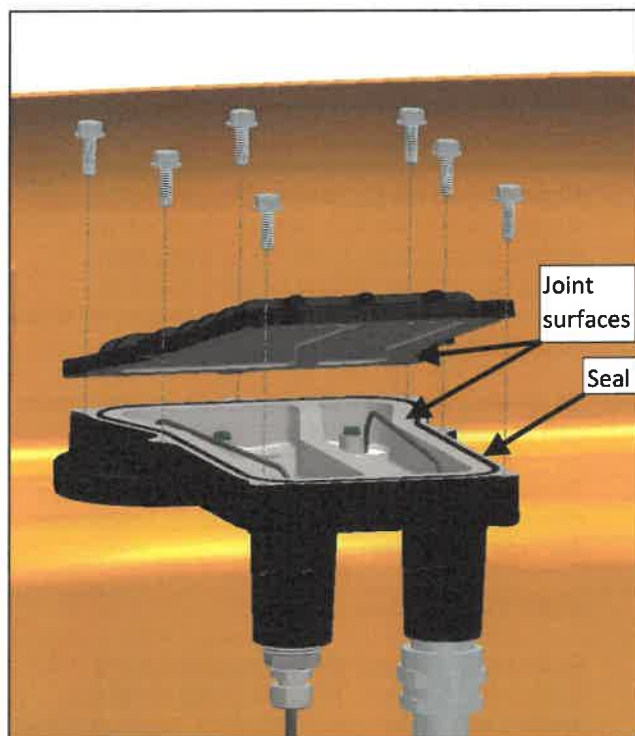

Figure 21
i) Ensure seal is in body groove and clean. Put cover back on box using all seven supplied bolts. Torque bolts to 12 to 20 ft-lbs. Be careful not to damage cover or box joint surface during installation. See Figure 21.